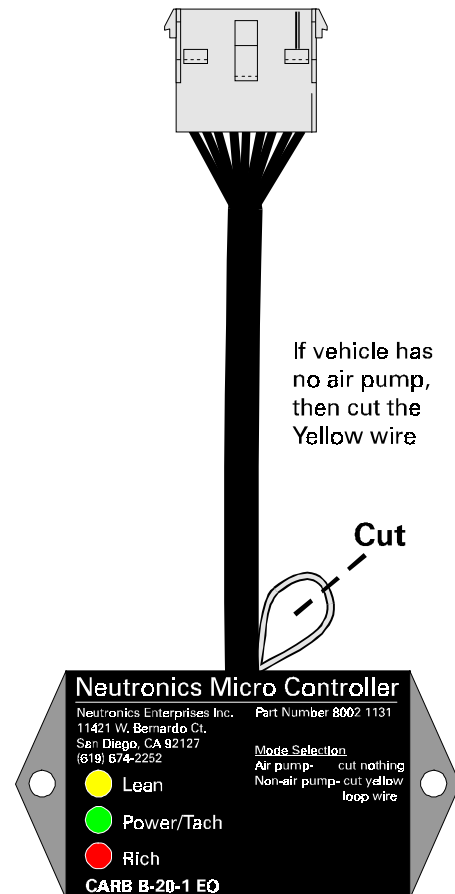

Figure 3. Wire Harness Modifications.
- Cut the yellow color loop. See **Figure 3**. This changes the mode of operation from air pump to non air pump.